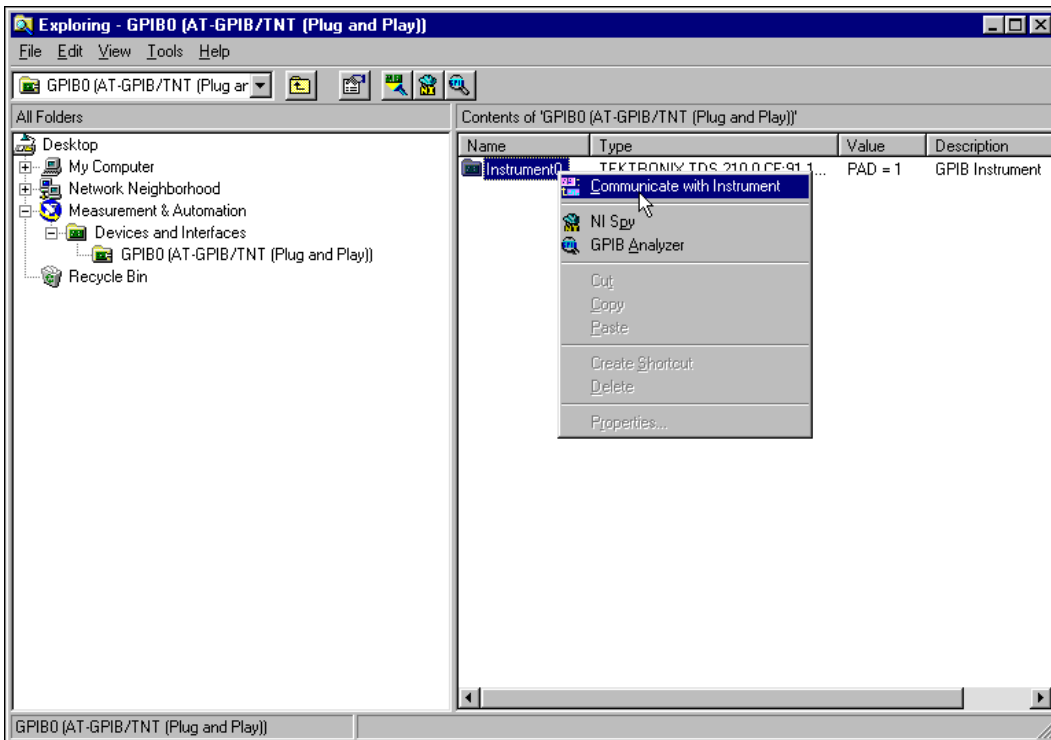

Figure 3-1. Select Communicate with Instrument
2. To start the NI-488.2 Communicator, select the GPIB instrument in the right window frame of Measurement & Automation Explorer, right-click, and choose **Communicate with Instrument**, as shown in Figure 3-1.